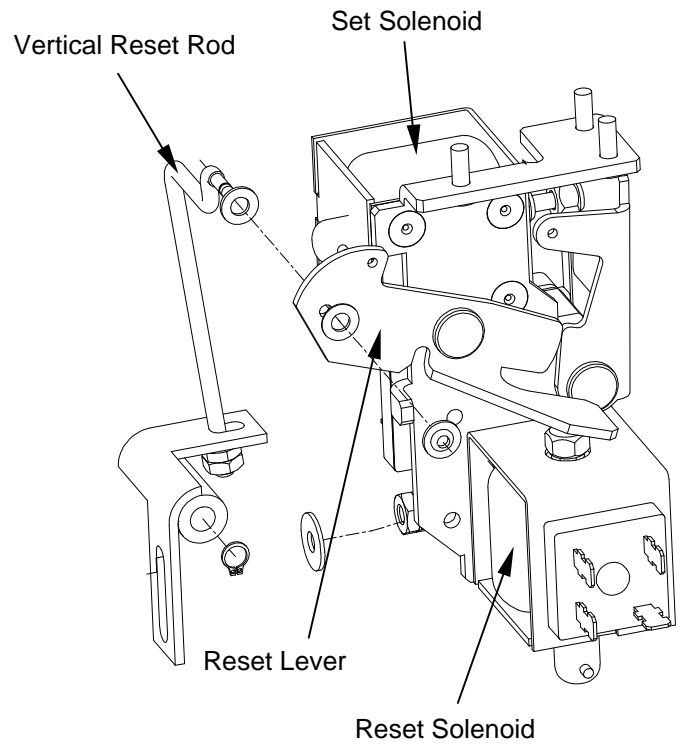
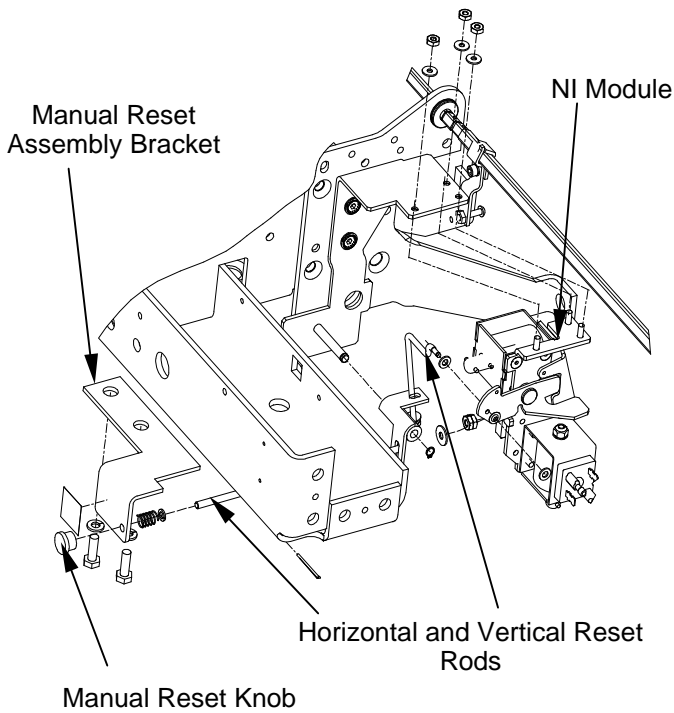
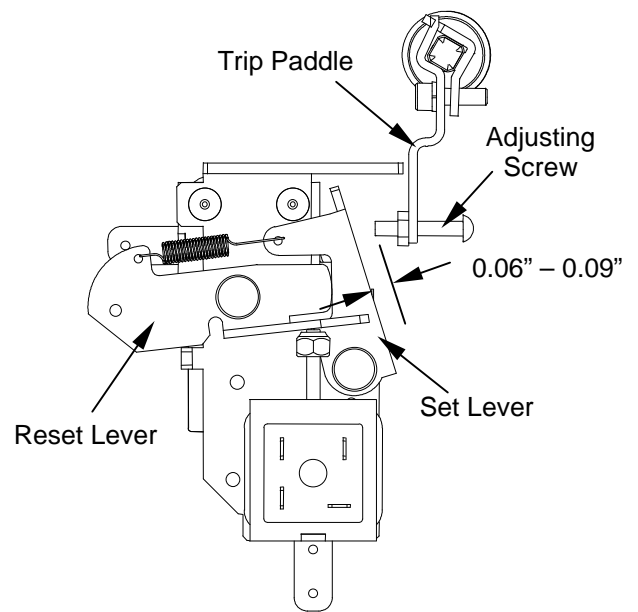

Figure 6. Manual reset assembly interface with Network Interlock module
Figure 5. Network Interlock module and manual reset mounting
Figure 7. Trip paddle and set lever gap calibration. (Breaker charged. NI module shown in RESET position.)
5. Fasten the Network Interlock module to the mounting bracket using three sets of # 8-32 nuts, spring washers, and flat washers as shown in Figure 5.
6. Ensure the Network Interlock is in the RESET state (shown in Figure 7) by manually rotating the reset lever counterclockwise. If the Network Interlock was SET, this operation will cause the set lever to retract (counterclockwise) away from the trip paddle.
7. With the breaker open, charge the breaker closing springs. Do not close the breaker. Adjust the gap between the set lever and the trip paddle by rotating the adjusting screw as shown in Figure 7. The distance between the set lever and the trip paddle must be between 0.06 and 0.09 inch.
8. Manually push the set lever toward paddle, locking the Network Interlock into the SET position (shown in Figure 6). Check to ensure that this operation causes the trip paddle to move.
10. Fasten the manual reset assembly bracket to the breaker frame using two sets of 1/4-inch hex-head bolts and lock washers as shown in Figure 5.
11. Assemble the two reset rods as shown in Figure 5 and Figure 6. Fasten the top end of the vertical rod to the reset lever with two flat washers and one push nut as shown in Figure 6.
12. Pull the manual reset knob shown in Figure 5. Check that the Network Interlock has returned to the RESET state, as shown in Figure 7.
Use the following procedure, illustrated in Figure 5 and Figure 6 to remove the Network Interlock module.
2. Remove the push nut and washer from the top of the manual reset rod and slide the rod out of the reset lever as shown in Figure 6.
3. Remove the Network Interlock module from the mounting plate by removing the three nuts and washers, as shown in Figure 5.
Use the following procedure to install the Network Interlock module as a replacement, as illustrated in Figure 5 and Figure 6.
3. Fasten the Network Interlock module to the mounting bracket using three sets of # 8-32 nuts, spring washers, and flat washers as shown in Figure 5.
4. Ensure the Network Interlock is in the RESET state (shown in Figure 7) by manually rotating the reset lever counterclockwise. If the Network Interlock was SET, this operation will cause the set lever to retract away from the trip paddle.
5. With the breaker open, charge the breaker closing springs. Do not close the breaker. Adjust the gap between the Network Interlock set lever and paddle by rotating the adjusting screw as shown in Figure 7. The distance between the set lever and the trip paddle must be between 0.06 and 0.09 inch.
8. Fasten the top end of the vertical manual reset rod to the reset lever with the push nut shown in Figure 6.
9. Pull the manual reset knob. Check that the Network Interlock has returned to the RESET state, as shown in Figure 7.